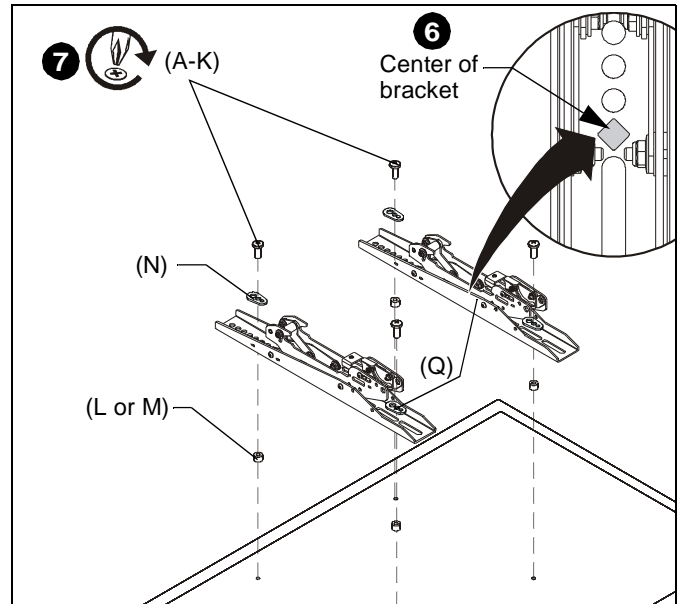

Figure 10
3. Select screw *diameter* by examining hardware (A-K) and comparing with mounting holes on display. (See Figure 10)
- Spacers are **NOT** required if mounting holes are not recessed and interface brackets (Q) can lay flat against display.
- Spacers (L or M) **ARE** required if mounting holes are recessed, or if protrusions prevent interface brackets (Q) from laying flat.
5. Select screw *length*: (See Figure 10)
- By hand, insert **SHORTEST** length screw of selected diameter (A, D, G or I) through universal washer (N - if required), bracket (Q), selected spacer (L or M-if required), into display mounting hole. Do **NOT** thread screw into hole at this time.
**IMPORTANT ! :** The M8 screws (I, J and K) do **NOT** require a washer. Use the universal washer (N) **ONLY** with M4 (A-C), M5 (D-F) and M6 (G and H) screws.
6. Align the center of the interface brackets (Q) with center of screen. (See Figure 10)
7. Use selected screws (A-K), universal washers (N-if required) and spacers (L or M-if required), to connect interface brackets (Q) to back of display. (See Figure 10)